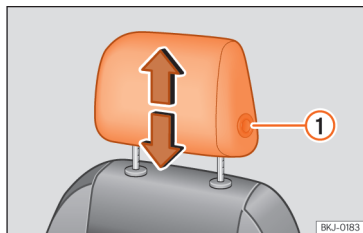
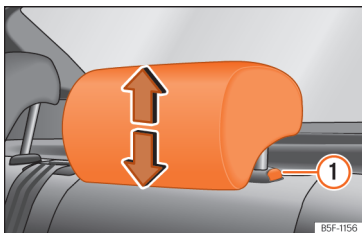

Fig. 67 Front seat: adjusting the head restraint.
Fig. 68 Rear headrest: adjusting the headrest.
- Grab the sides of the head restraints with both hands and push upwards to the desired position. To lower it, repeat the same action, pressing the button on the side ① »» Fig. 67 , »» Fig. 68.